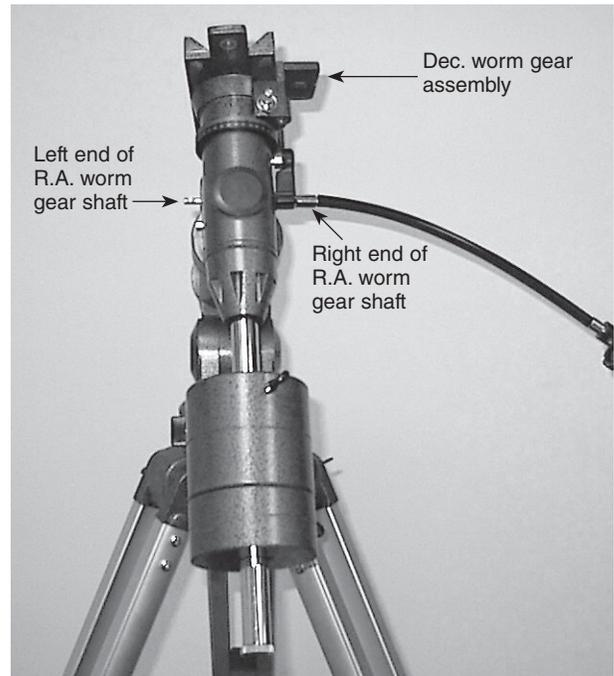

Figure 1
1. When facing the front of the mount, the R.A. slow-motion control cable should be mounted to the right end of the R.A. worm gear shaft (**Figure 1**). If it is mounted on the left end, remove it, and reinstall it on the right end of the shaft.
1. Release the Dec. lock lever, and rotate the mount about the Dec. axis until the Dec. worm gear assembly is on the right side when facing the mount, as in **Figure 1**. Retighten the Dec. lock lever. If the Dec. slow-motion control cable is attached to the front end of the Dec. worm gear shaft, it will need to be removed, for now.